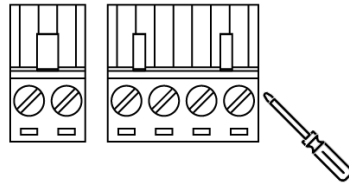

Figure 2
2. Tighten the wire-clamp screws to prevent the wires from loosening, as shown below in *Figure 2*.